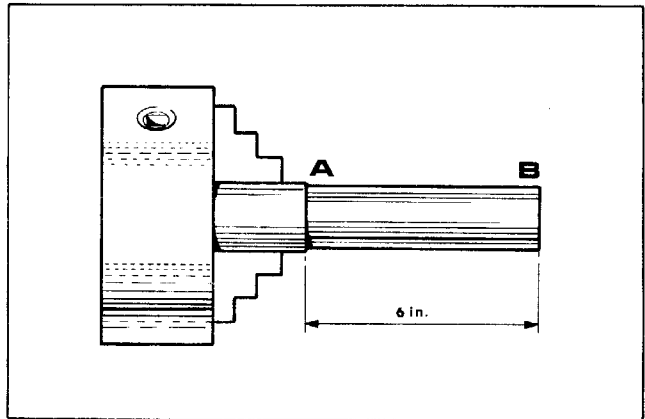
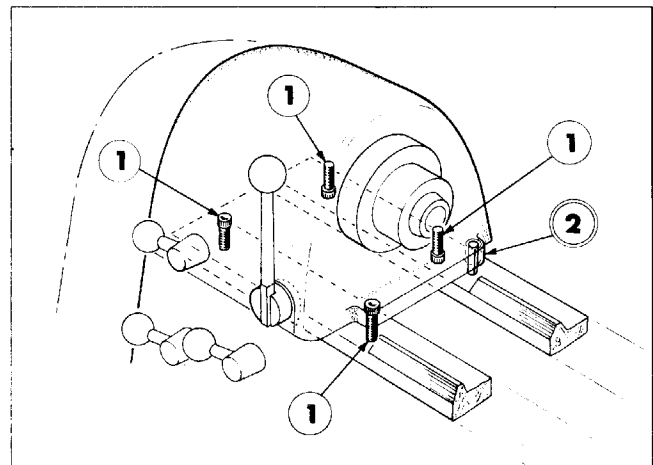

Fig. 15
Fig. 16
Set a length of mild steel stock about 2 in. dia. in the chuck and take a light cut with a keen tool over a 6 in. length (Fig. 15). Do not support at the free end. Micrometer readings at each end of turned length (A and B) should be the same.
To correct a difference in readings, slacken off headstock hold-down bolts (1) see Fig. 16, and pivot the headstock around dowel (2). As a guide, with a dial indicator set against point B of Fig. 15 it will be necessary to swing the headstock about 2½ times the difference in micrometer readings between A and B.